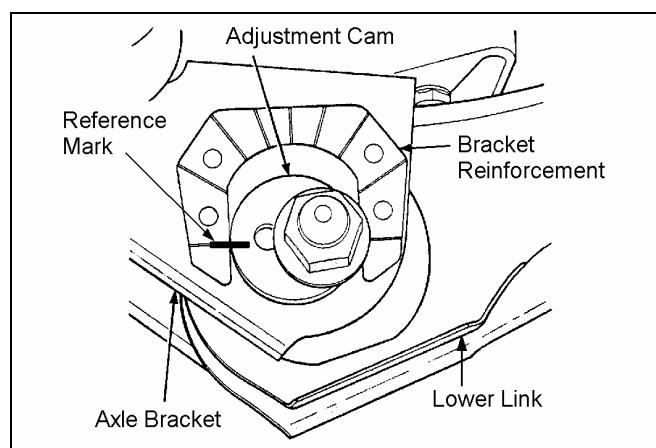

Figure 1
- 3) For the front suspension, paint or scribe alignment marks on the adjustment cams and axle brackets for installation reference. See Figure 1.